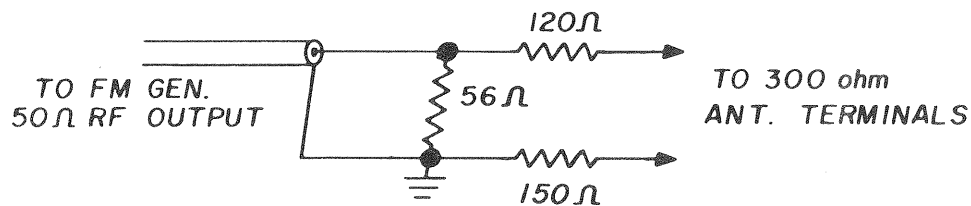

Figure 2
1. Set the SELECTOR switch to "FM" and the FM muting switch off. Connect a FM Generator to the 300 ohm FM antenna terminals using a matching network if necessary as shown. (Figure 2)